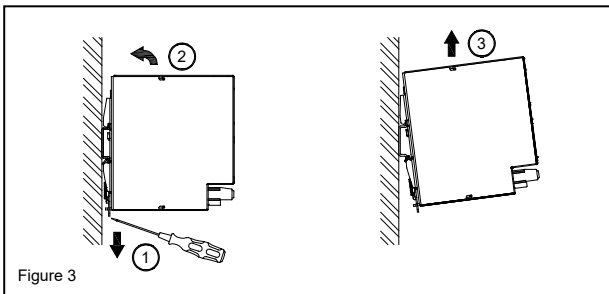

Figure 3
- Dismounting (Fig. 3)
To uninstall, pull or slide down the latch as shown in Fig. 3. Then, slide the PSU in the opposite direction, release the latch and pull out the PSU from the rail.